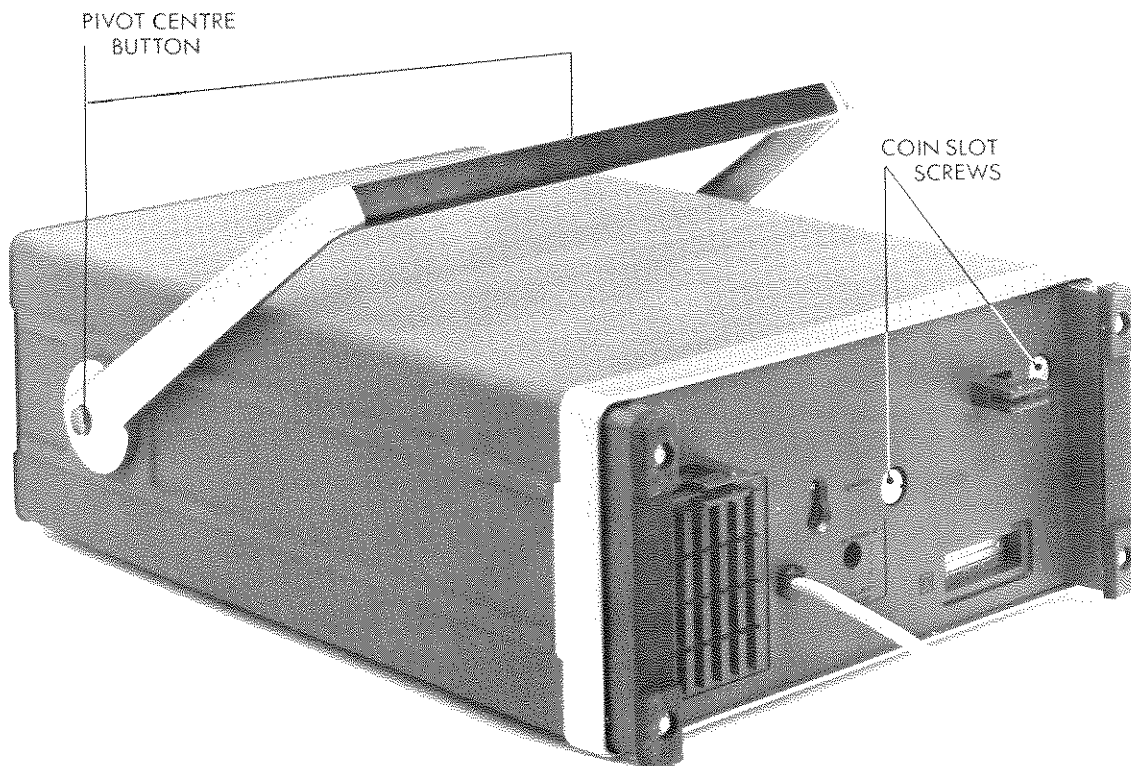

Fig. 3.18. Removing the instrument covers
- Hinge the carrying handle clear of the front cover; to this end, push both pivot centre buttons (Fig. 3.18).